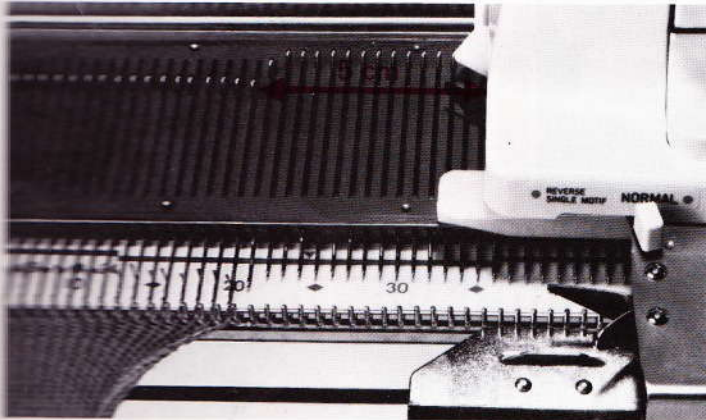

Fig. 38
- Make sure that the carriage is always pushed 5 cms (2 ins) beyond the last of the needles in working position before pushing it back again for the next row (fig. 38).